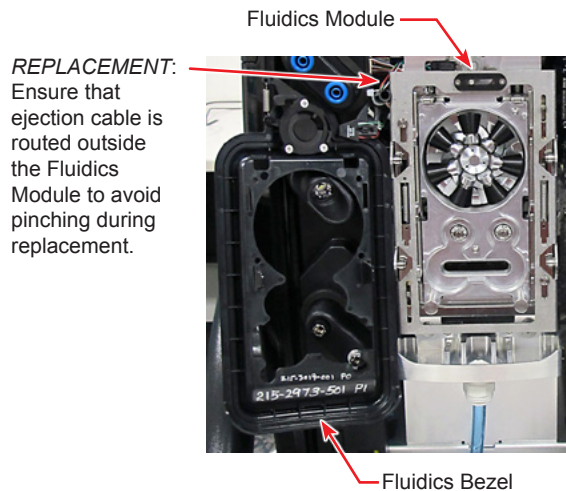

Figure 3-11 Fluidics Module with Bezel Removed
- 18.2 Remove black Fluidics Bezel by pulling it straight out from Fluidics Module. Bezel is attached to module by cable – allow bezel to hang freely in front of Fluidics Module during remainder of procedure (see Figure 3-11).
- Ensure that ejection cable is not pinched between Fluidics Module and console frame (see Figure 3-11).